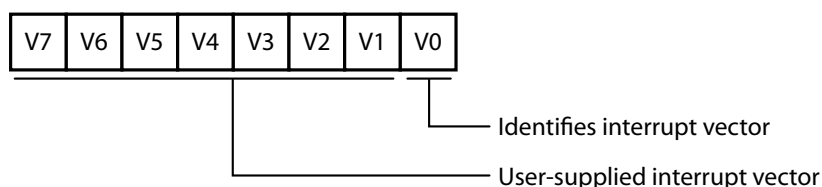

Figure 10. PIO Interrupt Vector Word Register
**Interrupt Vector Word.** When Bit 0 of the command register is cleared to 0, the command register functions as the Interrupt Vector Word Register. The PIO logic unit is designed to work with the Z80 CPU in Interrupt Mode 2. This word must be programmed if interrupts are to be used; bit D0 must be 0. See Figure 10.